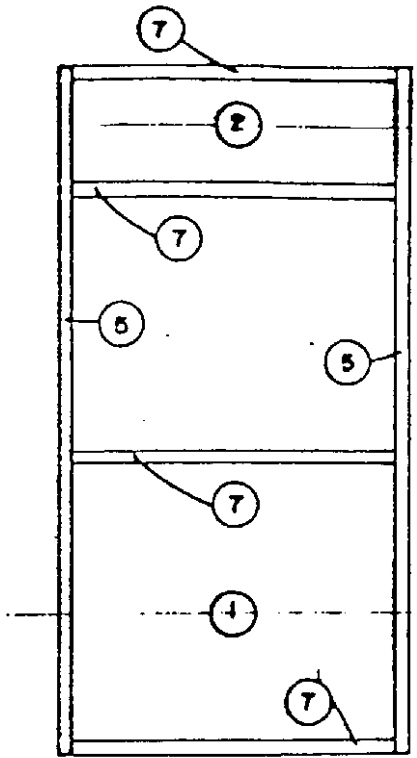

FIG. 3
3. Lay out plywood sheets No. 1 and 2 (as shown on Fig. 3). Nail 2 x 2's No. 5 and No. 7 as shown. Construct the two sides (Fig. 3).
4. Connect the front (Fit. 1) to the two sides (Fig. 3).